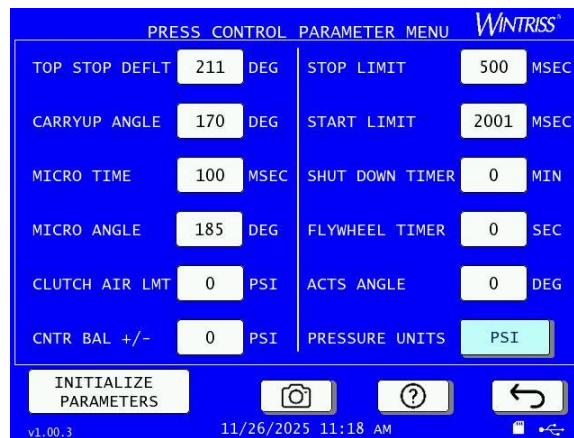

Figure 3-42. Press Control Parameter Menu
1. In the Press Control Parameter menu, Figure 3-42, press the entry box next to CARRYUP ANGLE. The on-screen numeric keypad appears.